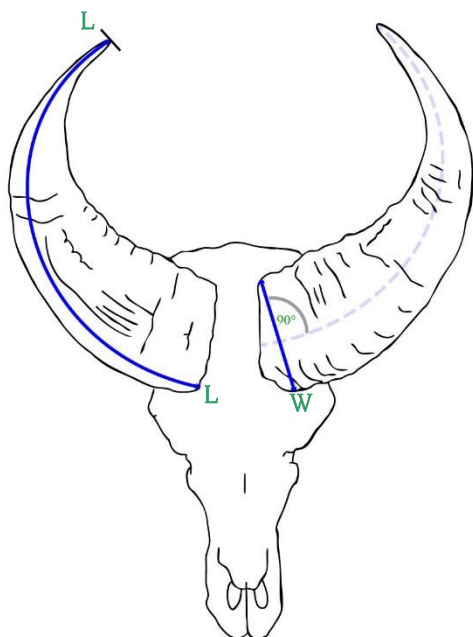
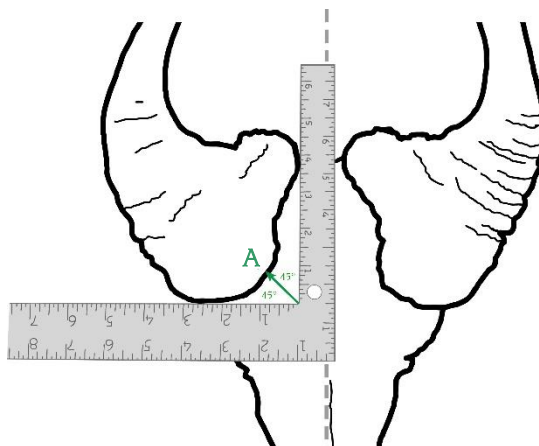

Figure 1
Figure 2
1. Length. Measure the length of each horn on the outside curve. Start in the front and measure along the front edge, keeping to the outside surface and continuing to the tip. (Figure 1) To find the starting point (L), lay the long leg of a carpenter's square against the bottommost part of the boss and place the shorter leg of the square against the inner part of the boss between the horns. (Figure 2) Make sure the short leg is exactly parallel to the axis of the skull. Now divide the 90-degree angle into half (45 degrees) and mark this spot on the edge of the boss. This is the starting point for the length measurement; keep to the outside surface and continue to the tip. (Figure 1)